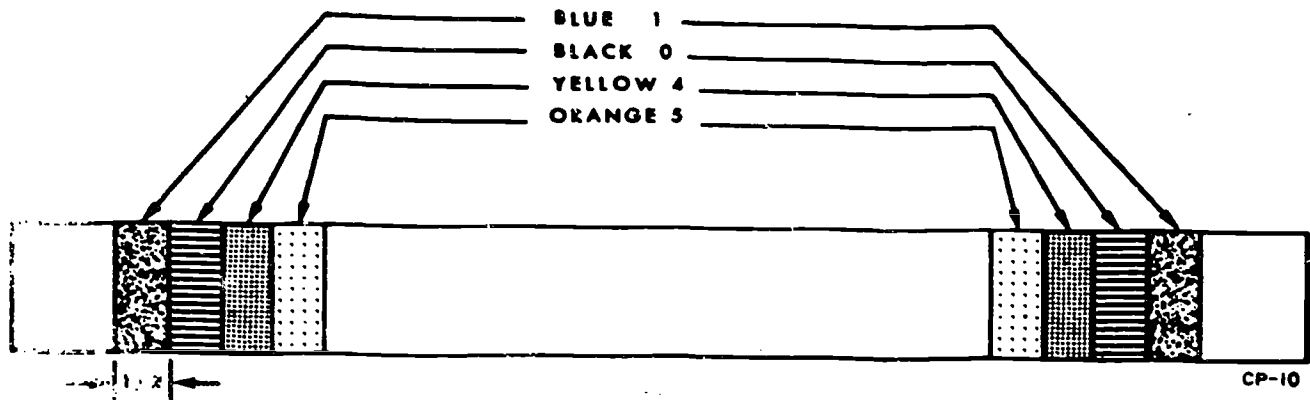
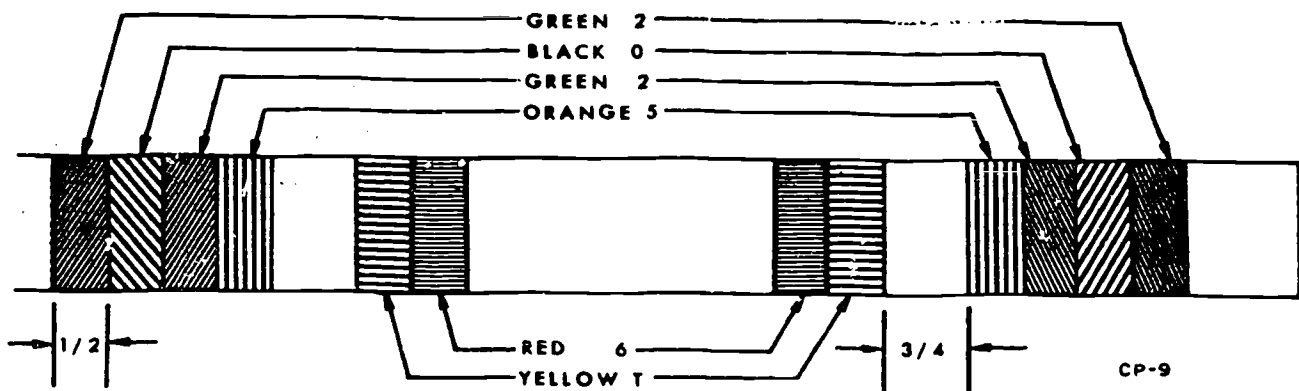

Figure 4-11. Color code for SAE-1045 steel.
Figure 4-12. Color code for AA-2025-T6.
**Air Force color coding.** For ease in identifying metals in storage, the material designation numbers are represented by stripes of paint at each end of the stock. The stripes are parallel and of equal width, 1/2 to 3/4 inch wide, and placed side by side and in sequence. When they are read from either end of the bar toward the center, the material designation numbers are shown in proper order. A space is left between stripes of the same color appearing side by side. This space is 1/4 inch or less in width. Ten colors are used to represent the various numbers and letters; they are shown in figure 4-10. Figure 4-11 shows the color coding for SAE-1045 steel and figure 4-12 for AA-2025-T6 aluminum. Note that, if they are read from either end toward the center, the numbers are in correct sequence. Note also that the temper designation colors are separated from the number designation colors by 3/4 inch. Two colors have been added recently to the color code. Aeronautical material specification and military specification metals of aircraft quality each require an additional stripe to indicate the condition of the quality of the metal. Gold is used to represent the letter Q and indicates aircraft quality. The commercial designation, American Iron and Steel Institute (AISI), Society of Automotive Engineers (SAE), and Aluminum Association (AA) numbers are used as the designation numbers.